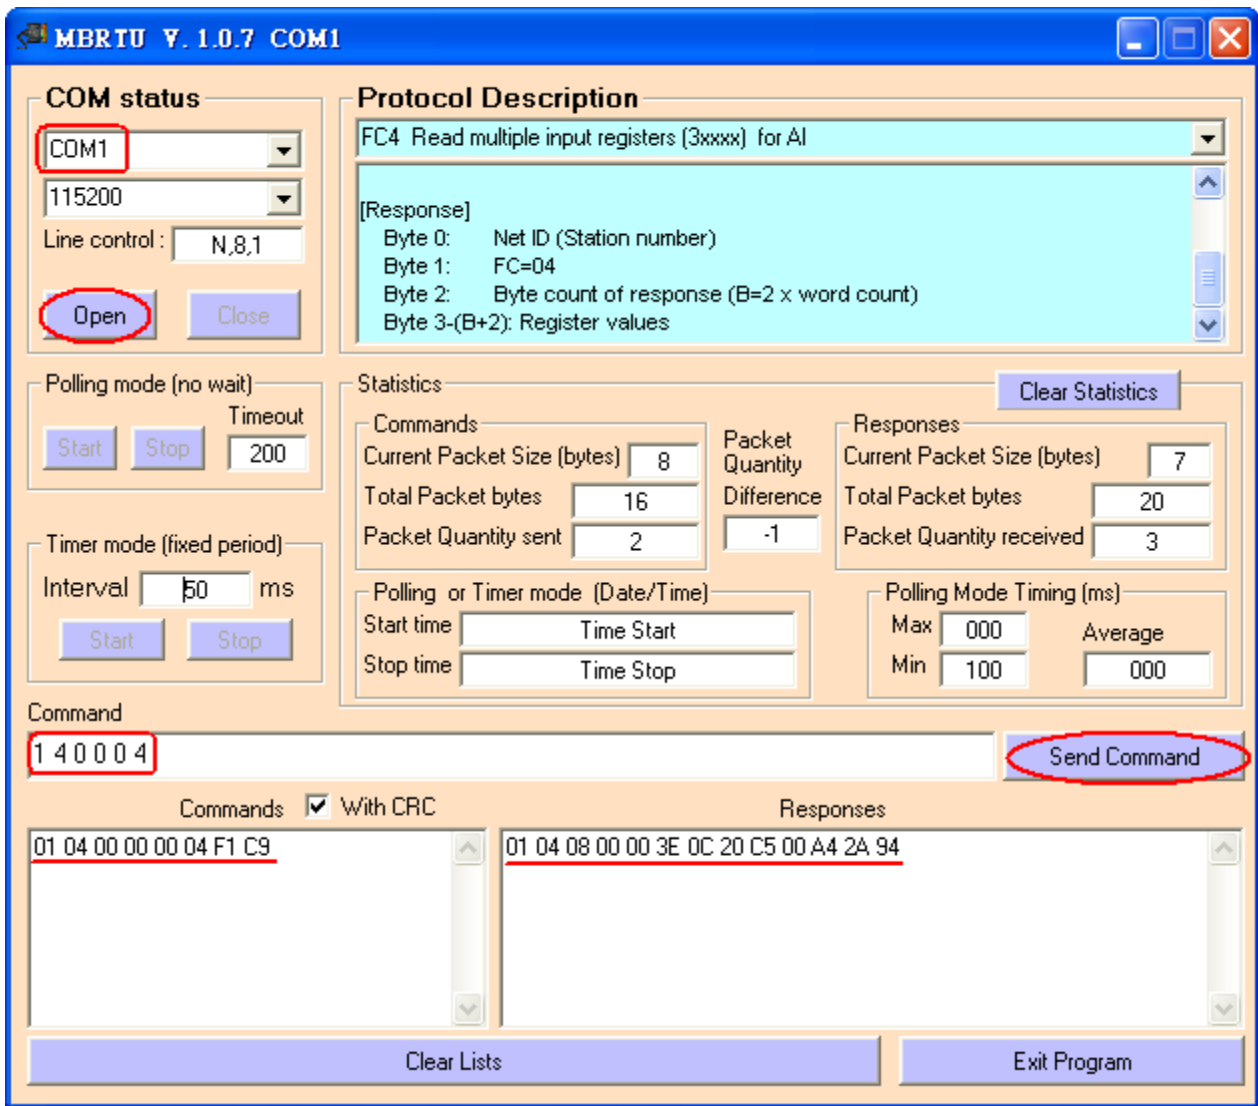

Figure 5-2 Receive HART Command 1 data
(3) Run “MB/RTU” tool. Set the com port settings the same with HART-710 (Baud Rate / Data Bits / Stop Bits / Parity) and then click “Open” button to connect to HRT-710 like Figure 5-2.
(4) Input “**1 4 0 0 4**” in “Command” field and click ”Send Command” button to send the modbus command. The HART command 1 data will be received in “Responses” field => “**01 04 08 00 00 3E 0C 20 C5 00 A4 2A 94**” like Figure 5-2.